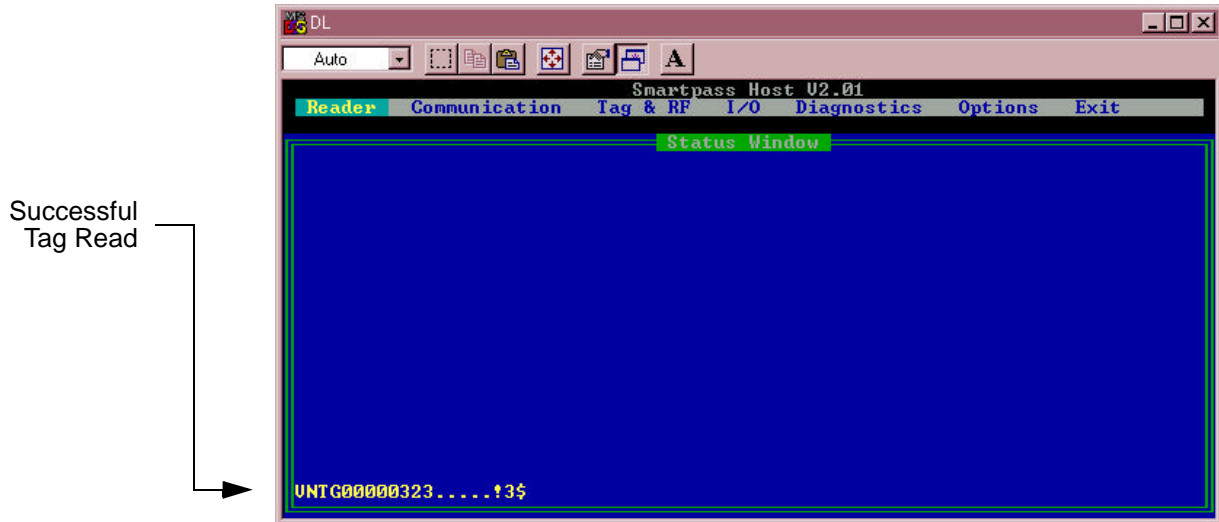

Figure 4-7 Successful Tag Read
1. Pass one test tag in front of the unit. If SmartPass reads the tag, SmartPass Host displays the tag information at the bottom of the status window, as shown in Figure 4-7.